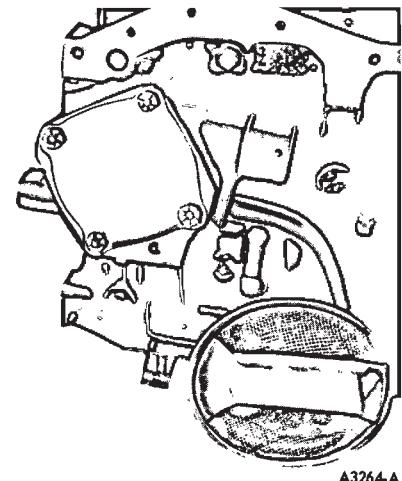

FIG. 44—Oil Pump and Inlet Tube Installed
1. Clean and install the oil pump inlet tube and screen assembly (Fig. 44).